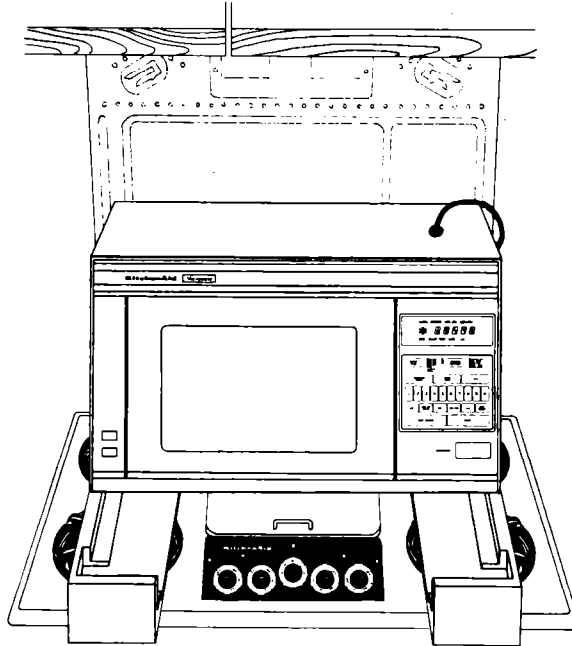

Figure 16
2. Place microwave/hood system on top of styrofoam blocks as shown in **Fig. 16**.
4. Using two (2) people, hang the unit on the hooks at the bottom of the mounting plate. Lift unit upward and hold pressed to the wall.